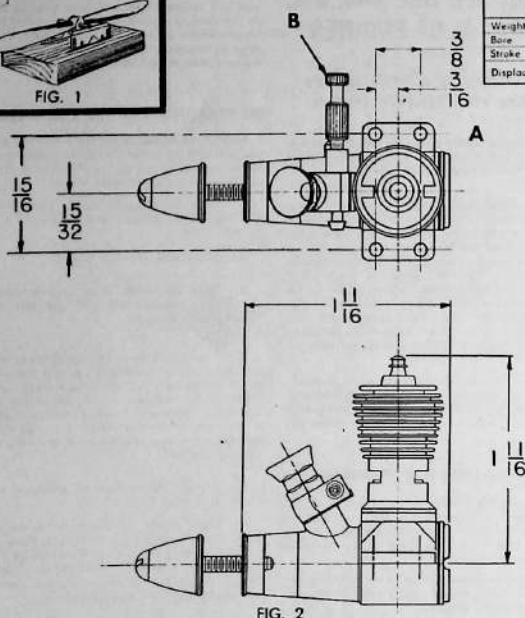
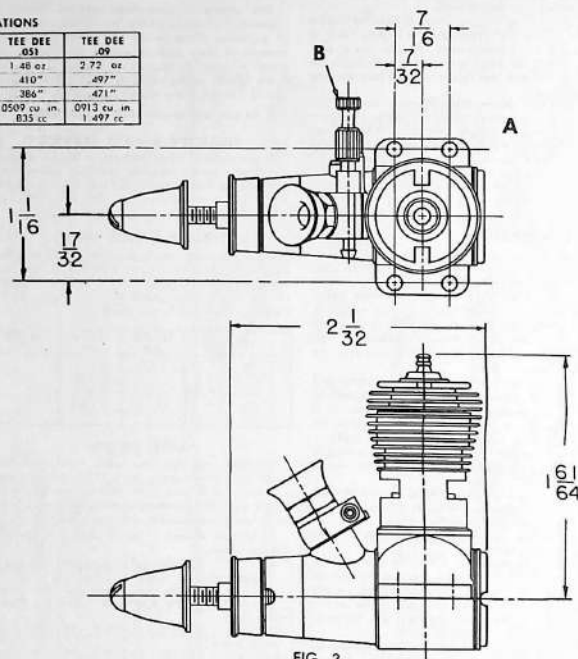

FIG. 2
FIG. 3
1. Mount the engine in the plane, or if you want to give it some running first, mount it on a suitable mount. Do not hold the engine directly in a vise. Use A-Fig. 2, or A-Fig. 3 as a template to drill mounting holes.
1. Close the carburetor needle valve, B-Fig. 2, or B-Fig. 3, by turning it clockwise until it stops. Do not force it.